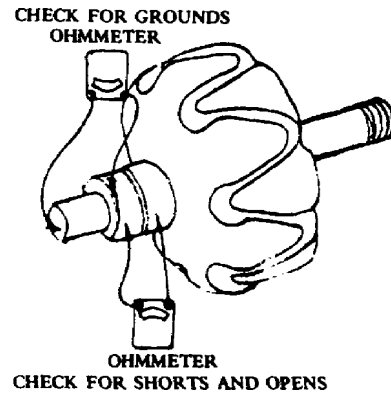

Figure 3. Rotor, ohmmeter.
a. An ohmmeter may be used in place of the battery and ammeter. The specified resistance may be calculated by dividing the voltage by the current listed in the specifications booklet. A low resistance indicates shorted windings, and a high resistance an open or poor connection (fig 3).